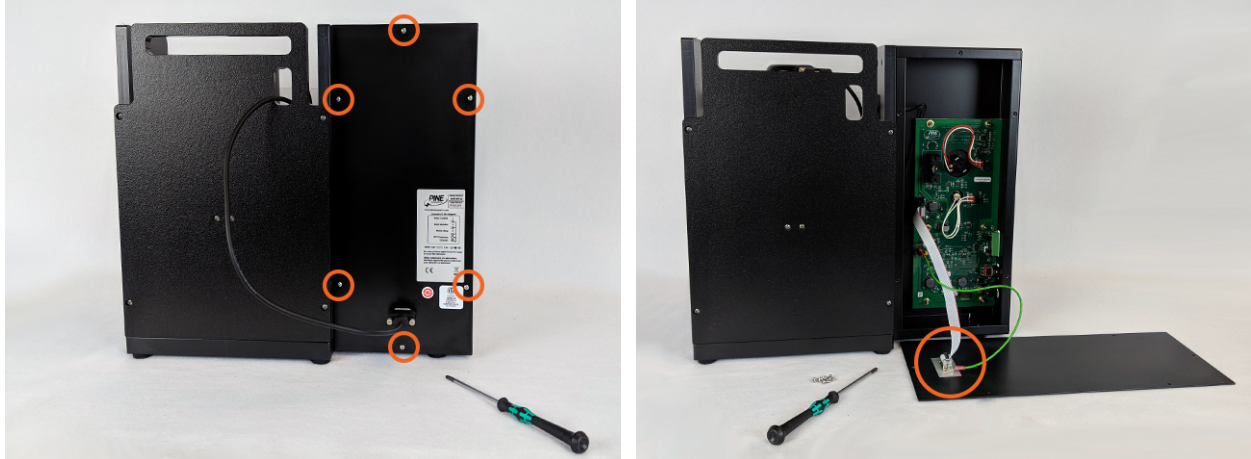

Figure 2-2. Six Screws Secure the Back Panel of the Control Unit
- Remove the back panel of the WaveVortex 10 control unit. Use the smaller Phillips-head screwdriver included in the WaveVortex 10 Maintenance Toolkit (AK01WV10TK1) to remove six screws (see Figure 2-2). Gently rest the cover on the bench (note: the connector and a grounding wire prevent the panel from being separated).